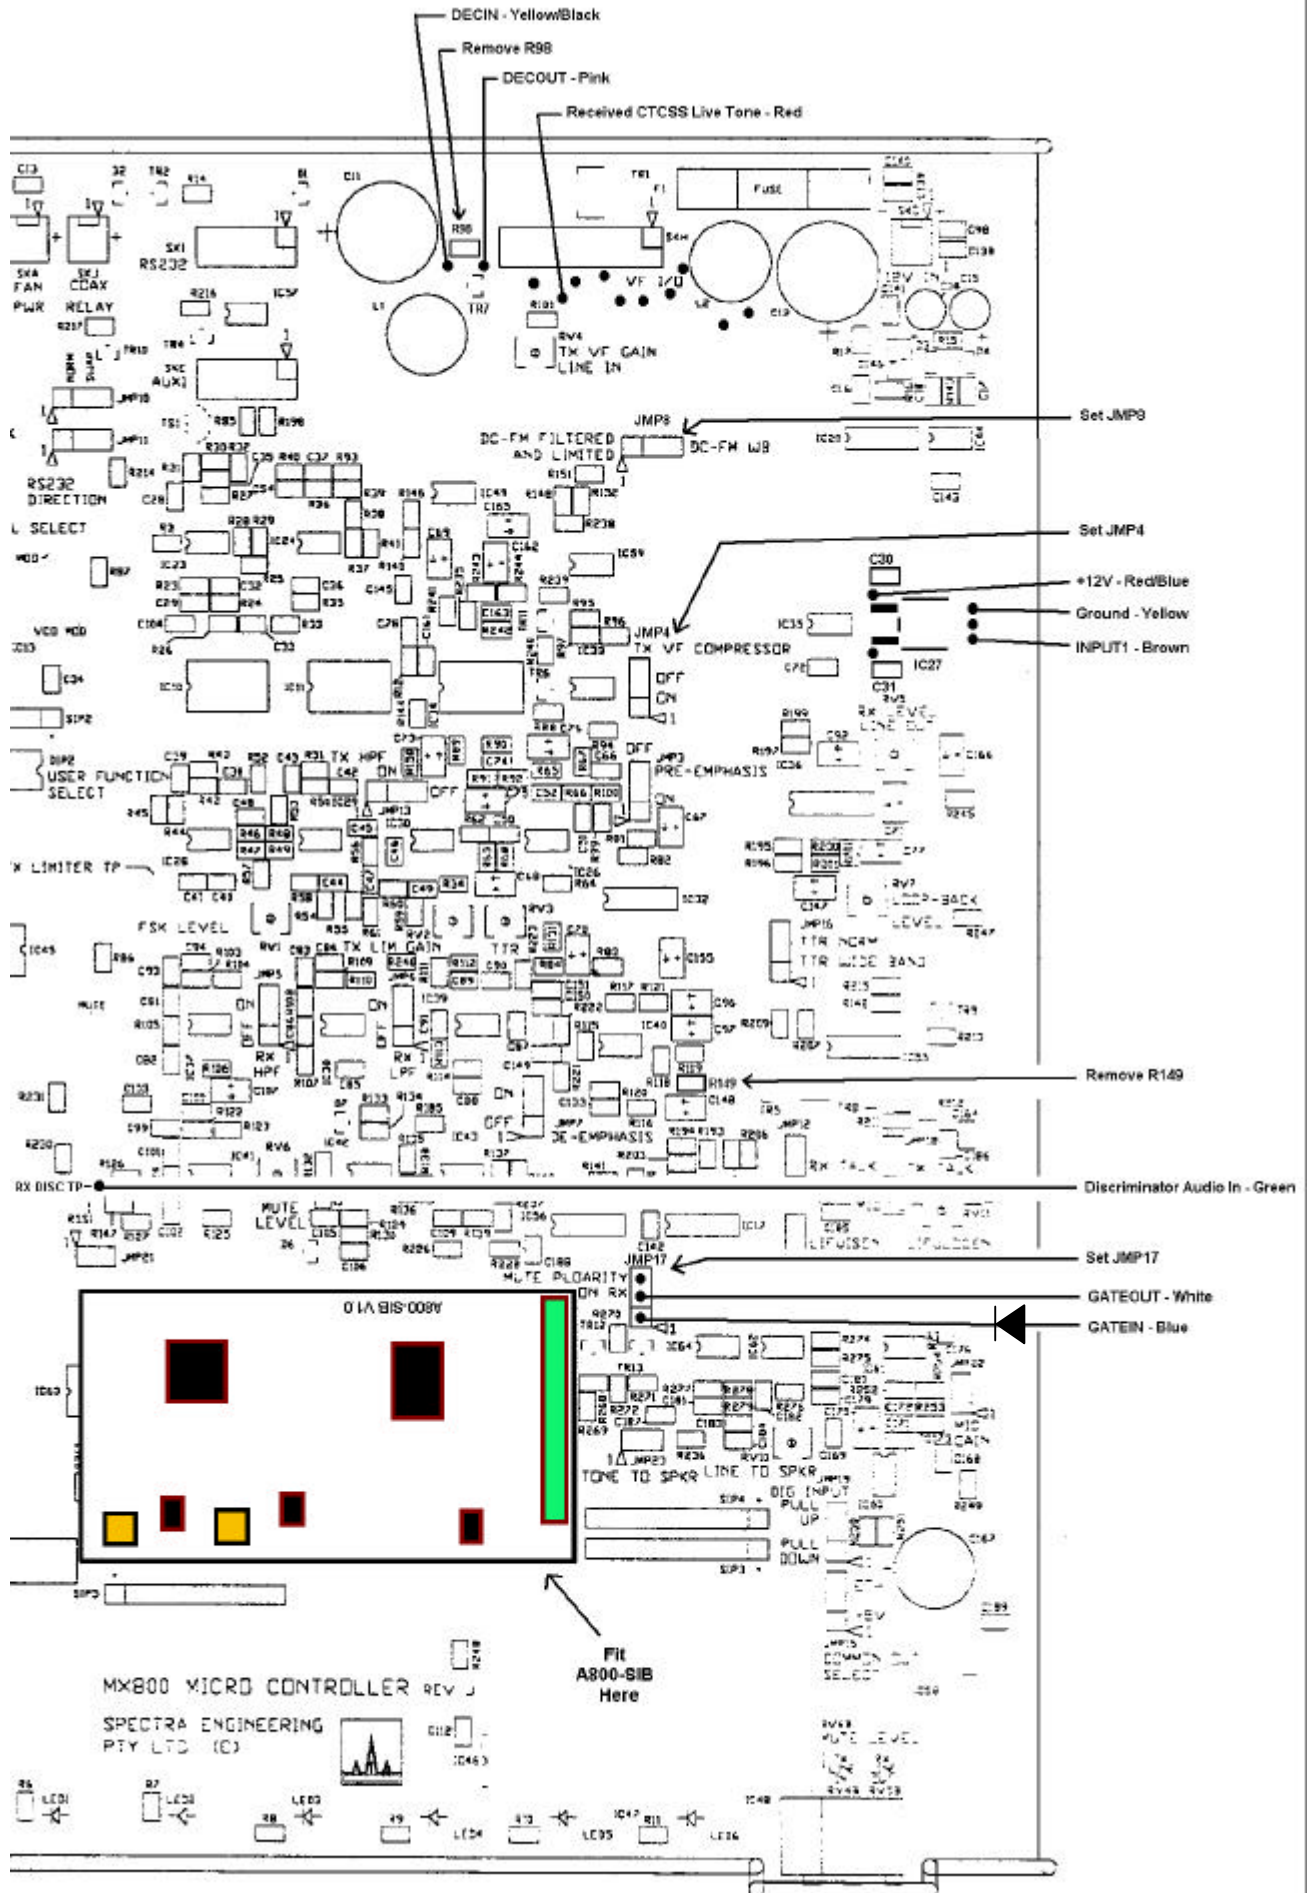

Figure 3
6. On the MX800 motherboard, fit the A800-SIB board. The A800-SIB board should be mounted with the supplied double sided tape, and fixed to the MX800 Motherboard. Refer to Figure 3.
7. On the MX800 motherboard, remove the resistors R98 10K and R149 10E. Refer to Figure 3.
8. Refer to Table 2a. Note that Table 2 is only shown here as a reference as to the previous connection method (described in AN0011-01). Refer to Figure 3 for the location of each of the connection points. Where possible place silicon tubing over solder joints. Place cable ties around the wires to keep them tidy. The unused wires on the A800-SIB wiring loom can be removed from the board connector. Keep the removed wires in case they are required at a later date.